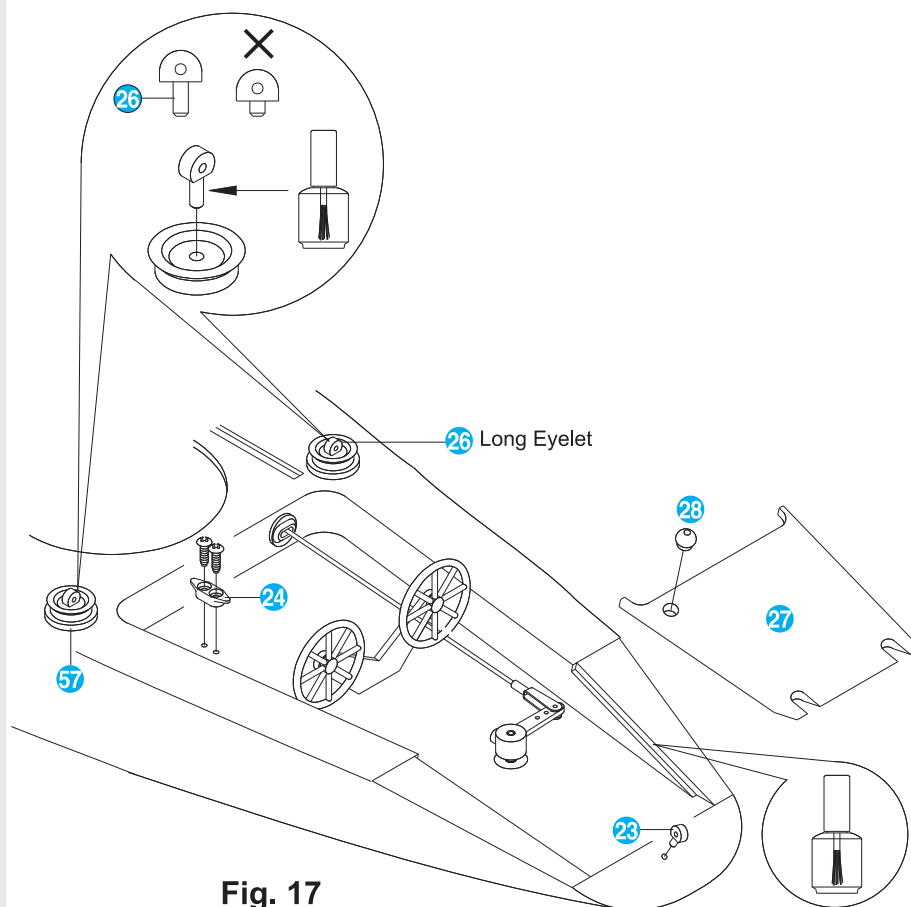

Fig. 17
4. Mount the long eyelets to the Winches **57** using ABS glue, and then adhere to the hull using ABS glue as shown in Fig. 17.
6. Glue the Short Eyelet **23** to the hull, and mount the Cockpit Cover **27** as shown in Fig. 17. Glue the Cockpit Rope Bushing **28** to the cockpit cover using ABS glue.